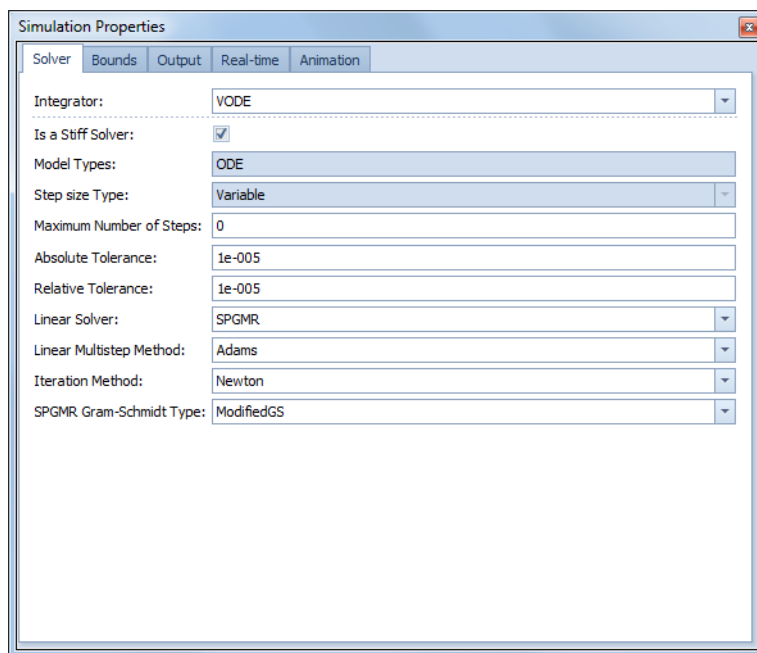

Figure 7.5 Simulation Properties dialogue window
- Click on “Simulation” in the Project | Properties menu, to access the dialogue window shown in Figure 7.5.